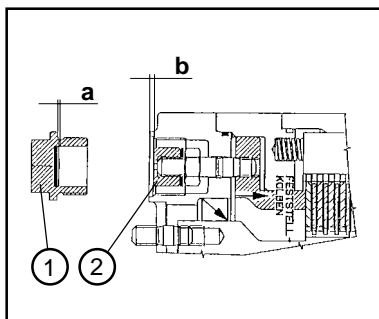

Figure 8-34
- (5) Determine the play ($l = b - a$) (Figure 8-34). To do so, determine gap "a" (8-34/a) between the stop discs and the stud end of the screw plug and gap "b" (8-34/b) between the sleeve and the sunk face of the housing.